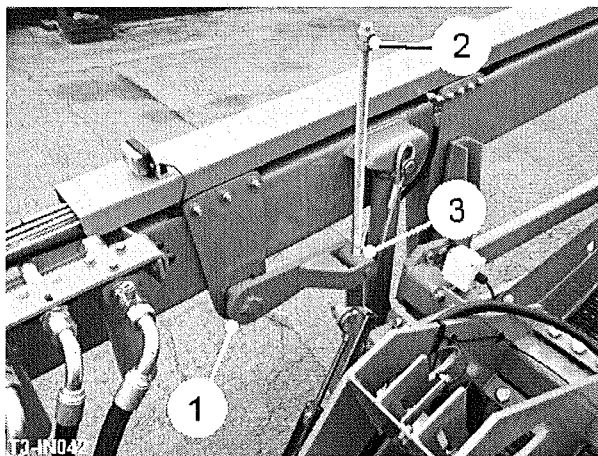

Fig 8
If required, the digger assembly can be suspended on the rubber torsion blocks (item 1, fig 8). This is normally set to act when the digger is operating in conditions where the soil pan is close to the digging depth and the maximum depth needs to be limited.
The suspension is set with the digger at maximum depth. Release the lock nuts (item 2, fig 8), and wind them down to the top of the trunnion (item 3, fig 8). Continue to wind down the nuts equally on both sides, one full turn at a time, until the required 'carry off' is reached with maximum digging depth still retained. Finally, retighten the lock nuts.